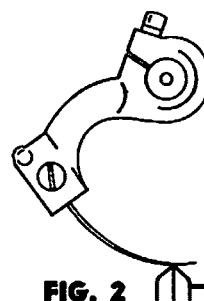

FIG. 2 Rib
3. Slowly release knee lifter. The rib should **JUST TOUCH THE NEEDLE** (Fig. 2).
6. When needle just touches rib (Fig. 2), machine is set to test.